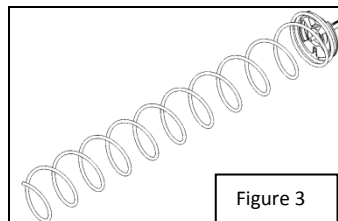

Figure 3
3. Remove spiral and hub out of the selection (See Fig. 3)
3. Form tab up 90 degrees on k-cup adapter (See Fig. 3)